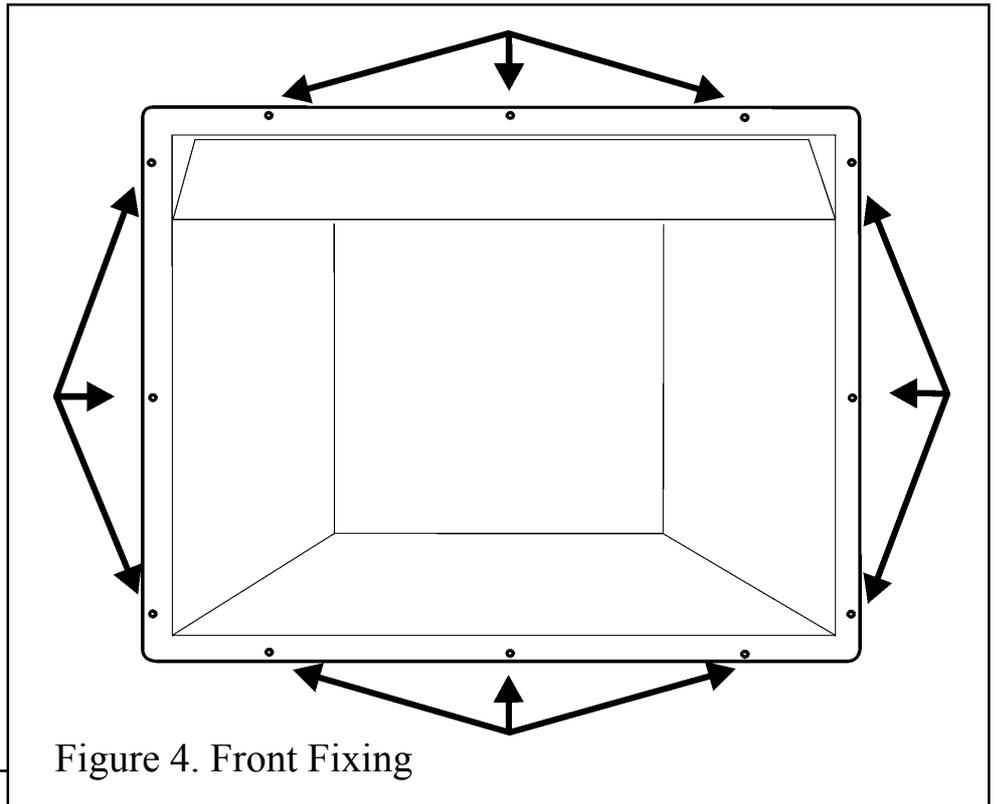

Figure 4. Front Fixing
3. Mark the fireplace front through the fixing holes in the outer flanges of the chamber box. See figure 4.